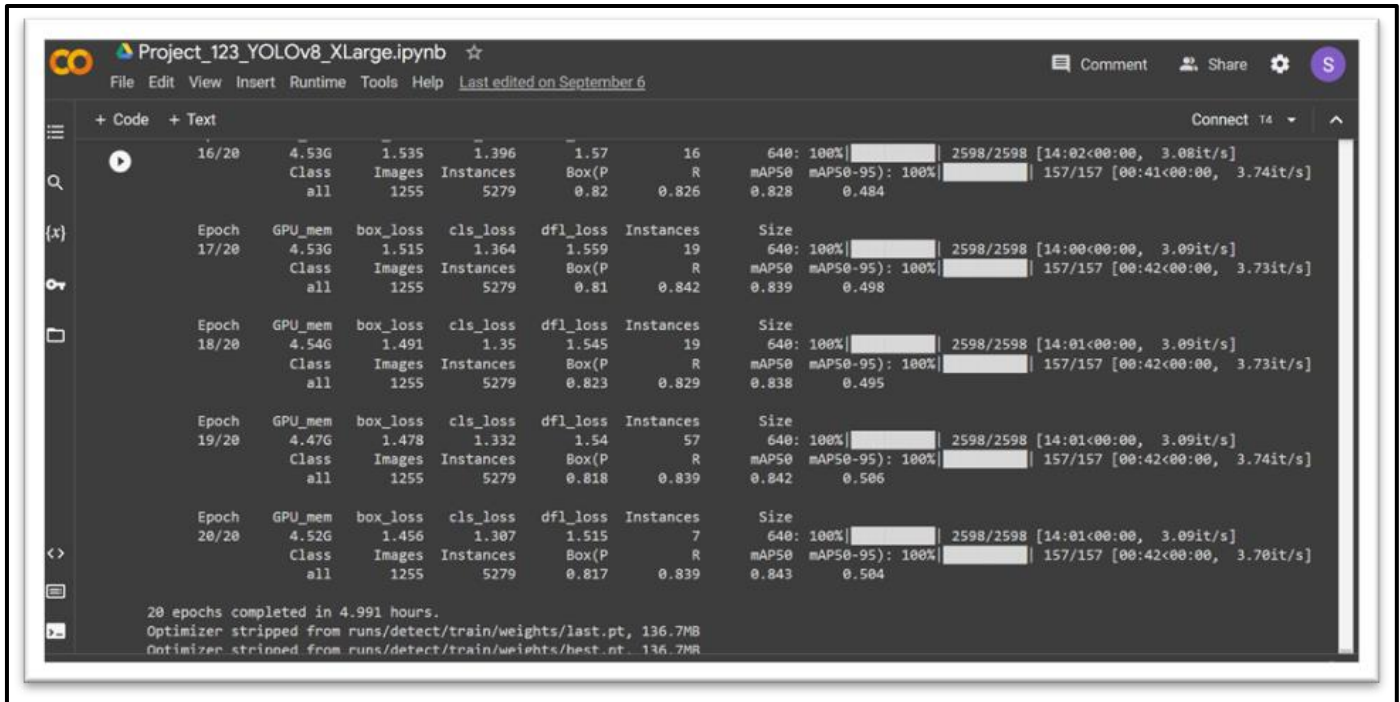

Fig 5 Training of the YOLOv8 Model
- After training the model for some epochs and performing validation on the Validation set for fine tuning. [Fig.5]